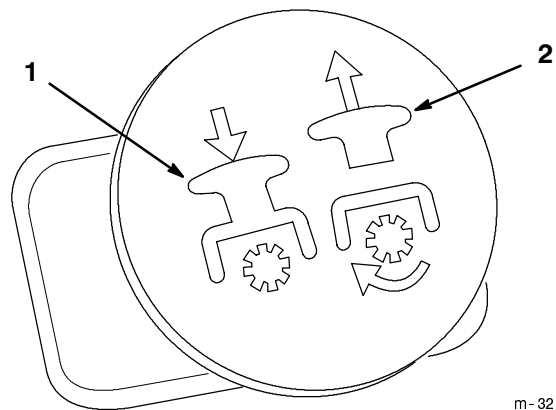

Figure 16
3. Pull the PTO switch to the on position (Fig. 16).